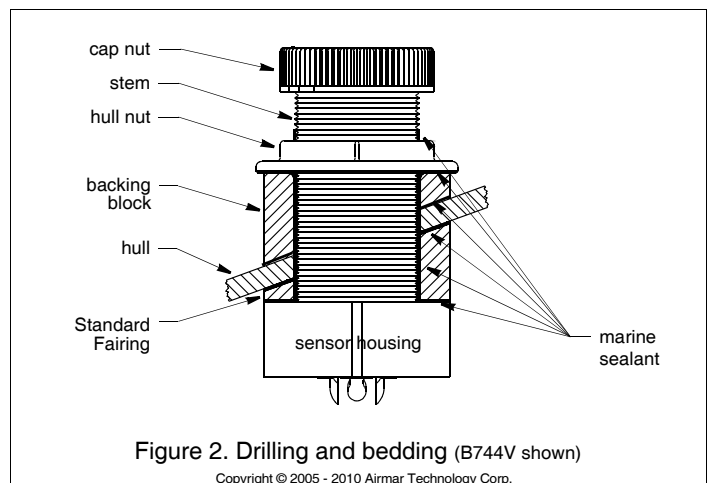

Figure 2. Drilling and bedding (B744V shown)
1. Drill a 3mm or 1/8" pilot hole perpendicular to the waterline from inside the hull (see Figure 2). If there is a rib, strut, or other hull irregularity near the selected mounting location, drill from the outside.
1. Remove the hull nut (see Figure 2).
2. From inside the hull, slide the backing block onto the stem and seat it firmly against the hull, being sure the pointed end faces forward toward the bow (see Figure 2). Screw the hull nut in place. Tighten it with slip-joint pliers.